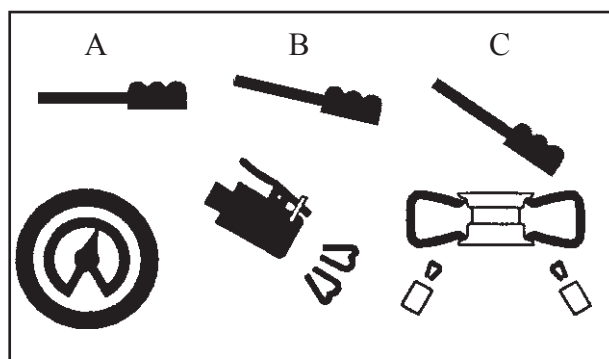

Fig. 1
- Press the deflation button (Fig. 1, page 28) to deflate the tyre in case the pressure exceeds the value recommended by the tyre manufacturer.
- If the bead of tyre is not well seated, due to a strong bead, lift tyre manually until the upper bead seals against the rim, then press pedal all the way down (C - Fig. 1). A strong jet of air will be released through the nozzles in the slides and this will help the bead seal.
- Release the tyre; set the pedal in the intermediate position (B - Fig. 1) and continue to inflate the tyre with short jets of air and constantly checking the pressure between air jets until the required pressure has been reached.